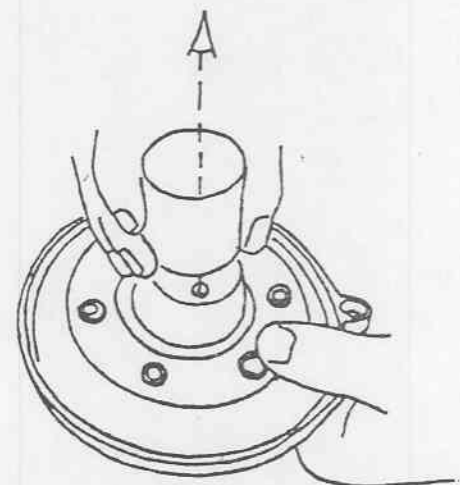

Fig. 8
8. When fixing the black plastic bearing take care that the 2 red valve seats fit into the 2 holes in the bearing and that the diaphragm support ring is placed correctly (fig. 8).